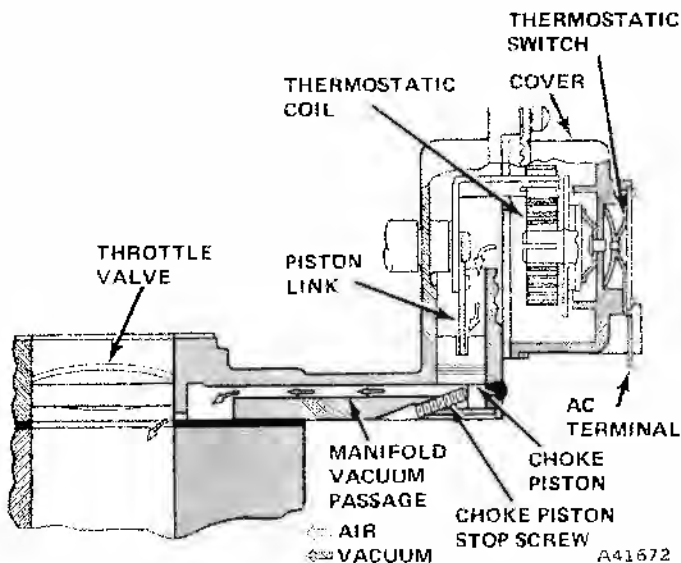

Fig. 4A-14 Electric Assist Choke
An electric assist choke is used with all 4V carburetors to match choke operations to engine requirements. It provides supplemental heat to the choke bimetal to speed up choke valve opening after choke cover interior reaches modulating temperature (see Modulating Temperature Chart). The purpose of the electric assist is to reduce emission of carbon monoxide (CO) during the engine warmup period. A special ac terminal is provided at the alternator to supply a seven-volt power source for the electric assist. A thermostatic switch (bimetallic disc) within the choke cover closes when the choke cover interior reaches modulating temperature, allowing current to flow to the heating element (fig. 4A-14). The circuit is completed through the choke cover ground strap and choke housing to engine. As the heating element warms up, heat is absorbed by an attached metal plate which heats the choke bimetal coil.